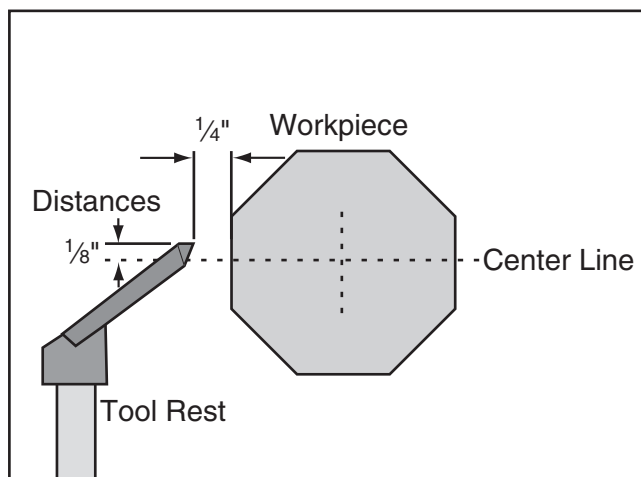

Figure 35. Tool rest set $\frac{1}{8}$ " above the center line and $\frac{1}{4}$ " away from workpiece.
11. Position the tool rest approximately $\frac{1}{4}$ " away from the workpiece and approximately $\frac{1}{8}$ " above the center line, as illustrated in **Figure 35**.